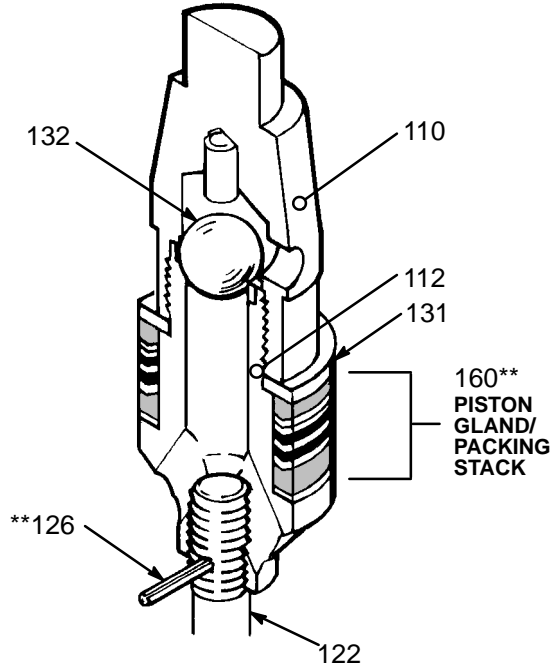
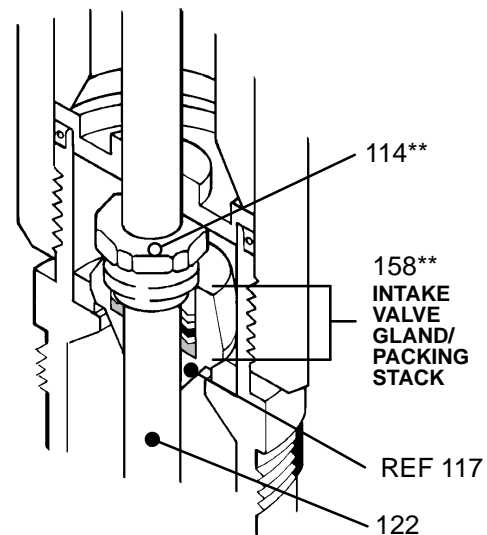

Fig 5
Fig 6
4. Slide the **assembled** gland/packing stack (160\*\*) onto the piston valve (112), *with the lips of the v-packings facing up*. Then place the backup washer (131) on top of the gland/packing stack. See Fig 5.
5. Install the piston ball (132) in the piston valve housing (110). Apply medium grade thread sealant to the threads of the piston valve (112) and housing (110). Screw the piston valve into the piston valve housing, torquing to 81–102 N.m (60–76 ft-lb). Screw the piston rod (122) into the piston valve, aligning the holes. Insert the cotter pin (126\*\*).
6. Place the pump housing (109) in the vise. Install the new o-rings (125\*\*) on the pump cylinder (111). Lubricate the cylinder and slide it into the pump housing as far as possible.
7. Slide the rod guide (113) onto the piston rod (122), with the flat side facing down.
9. Slide the **assembled** gland/packing stack (158\*\*) into the intake cylinder's packing housing (REF 117). *Be sure the lips of the v-packings are facing up*. Install the packing nut (114\*\*) and torque to 34–47 N.m (25–35 ft-lb). Slide this assembly, packing nut first, onto the piston rod (122). See Fig 6.
10. Place an o-ring (124\*\*) around the intake cylinder (117). Screw the cylinder into the pump housing (109). Torque to 129–149 N.m (94–110 ft-lb).
11. Thread the nut (120) onto the bottom of the piston rod. Install the valve plate (118), valve guide (121), priming piston (119), and the other nut (120).
12. Holding both nuts (120) with a wrench, torque the bottom nut to 54–81 N.m (40–60 ft-lb).
13. Tighten the packing nut (140). Torque the nut (136) to 54–81 N.m (40–60 ft-lb).
14. Reconnect the displacement pump (14) to the air motor (15). Reconnect the ground wire to the air motor if it was disconnected during service.